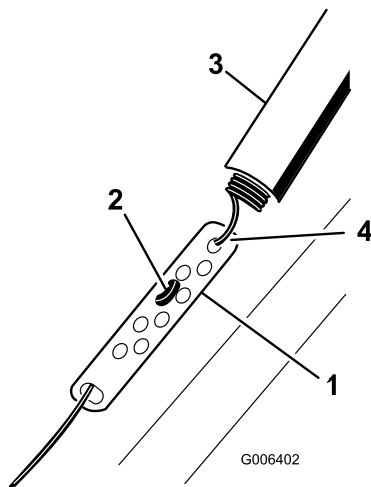

Figure 23
1. Slide up the spring cover and unhook the spring from the adjuster link (Figure 23).
2. Move the Z-fitting to a higher or lower hole on the adjuster link as needed to obtain the 2 mm to 3 mm (1/16 inch to 1/8 inch) gap between the control bar and the handle (Figure 23).